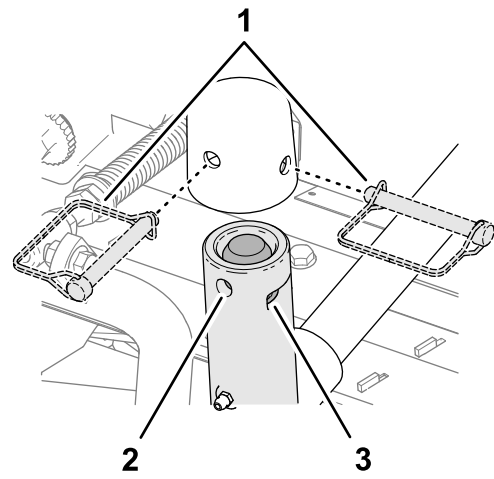

Figure 23
**Locking the Cutting-Unit Pivot for Cutting Grass on a Hill Side**—Lock the cutting-unit pivots to prevent the cutting units from rotating downhill when cutting across the face of a hill. Use the hole in the lift-arm pivot shaft (Figure 23) to lock the cutting unit. Use the slot for a steering cutting unit.